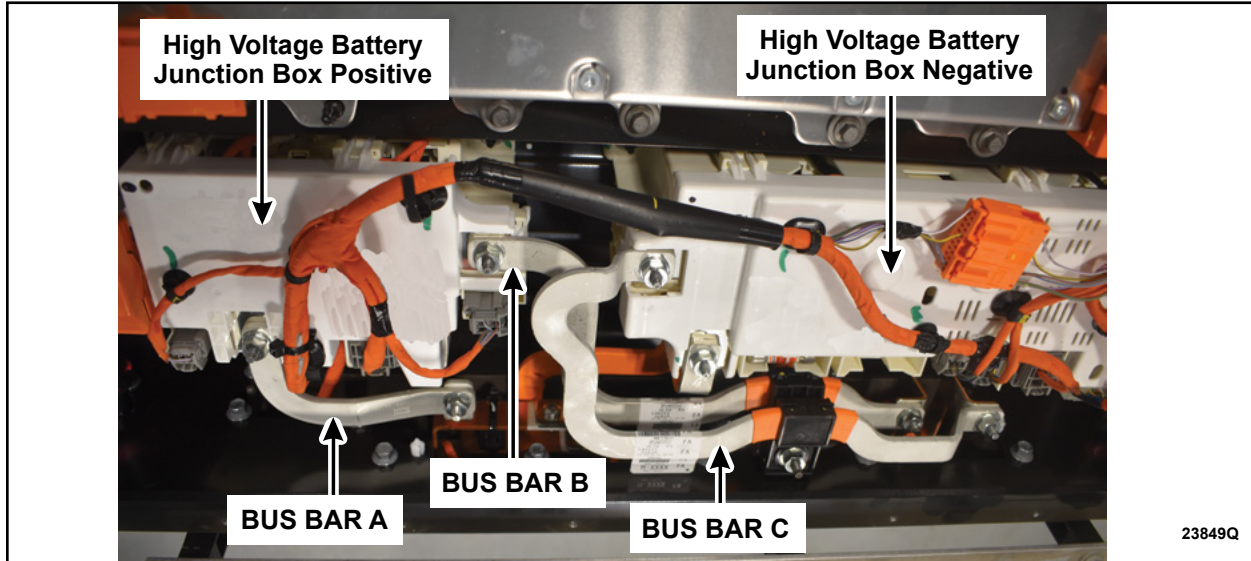

FIGURE 17
35. See Figures 17 and 18 to determine which part(s) will be replaced.